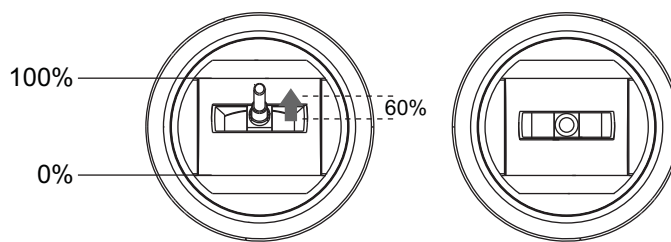

Figure 4-8 Push the Throttle Upward (60% in range)
2. Push the Throttle upward to the position of 60% in range, i.e. slightly above the middle point (Figure 4-8), and hold for 2 seconds. In this case, the aircraft may fly upward slightly when the remote controller control is recovered.